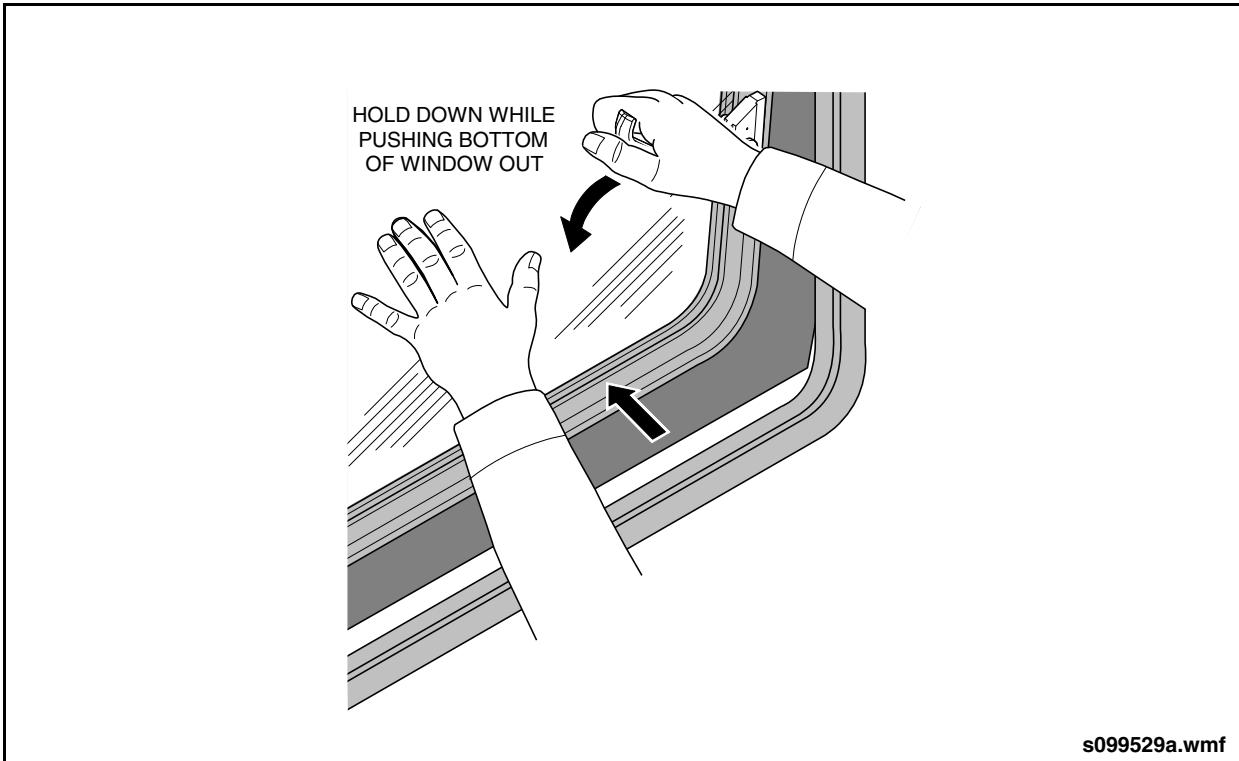

Fig. 14-8: Side Emergency Window Operation
1. Pull the red emergency handle down and hold it in this position. See "Fig. 14-8: Side Emergency Window Operation" on page 11.